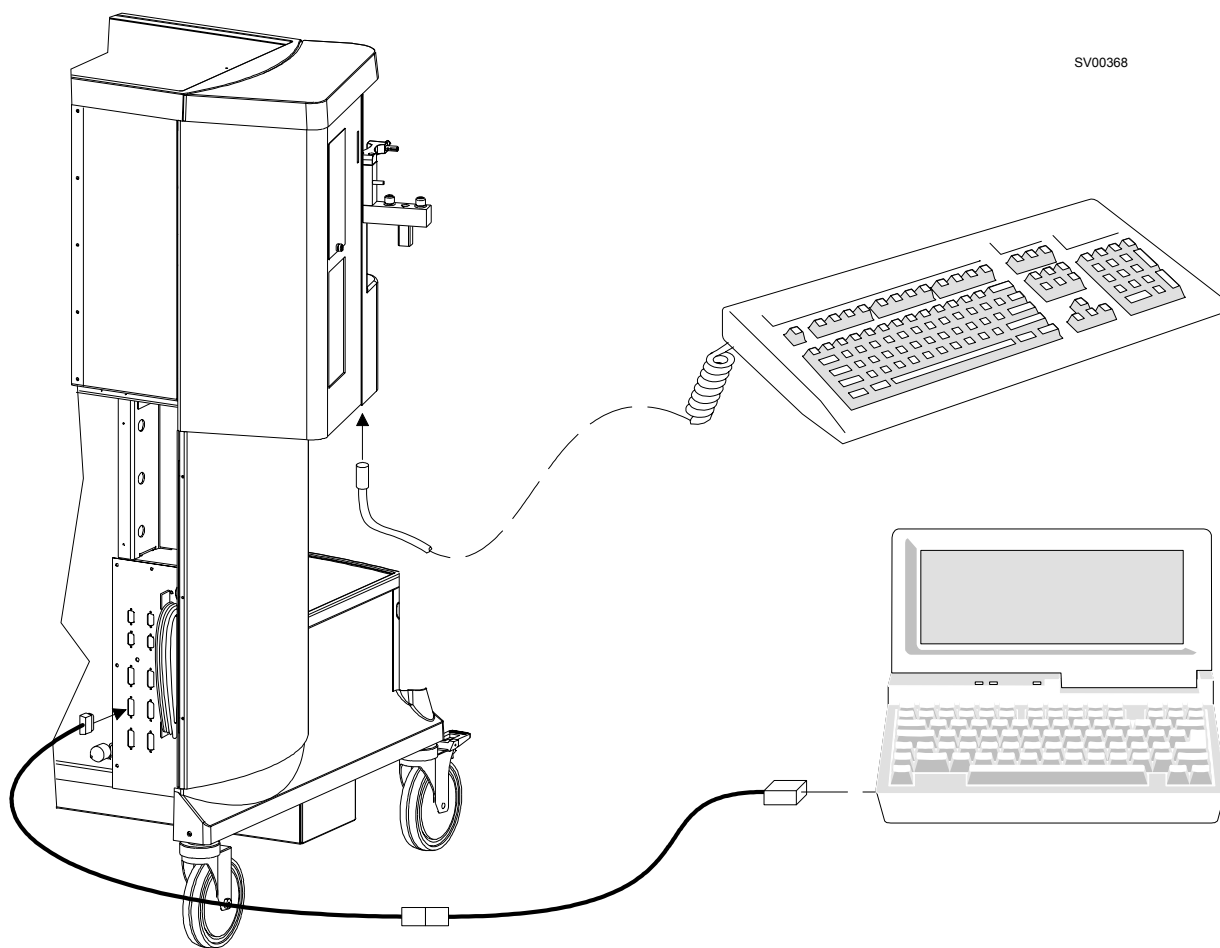

FIGURE 18. Keyboard and Laptop Connections
- 8.1 With the NM6000 System Power switch at **STANDBY**, connect the keyboard to the DIN connector on the underside of the NM6000 cockpit area. See Figure 18.